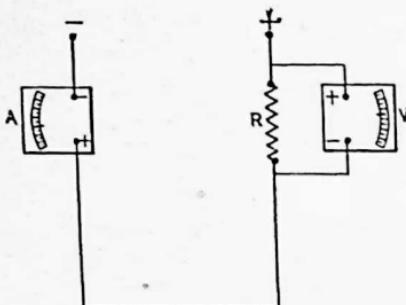

FIG. 17.
Problem 46. In Fig. 17 the resistance of R is 19.2 ohms. The ammeter (A) reads 4.13 amperes. What should the voltmeter (V) read?